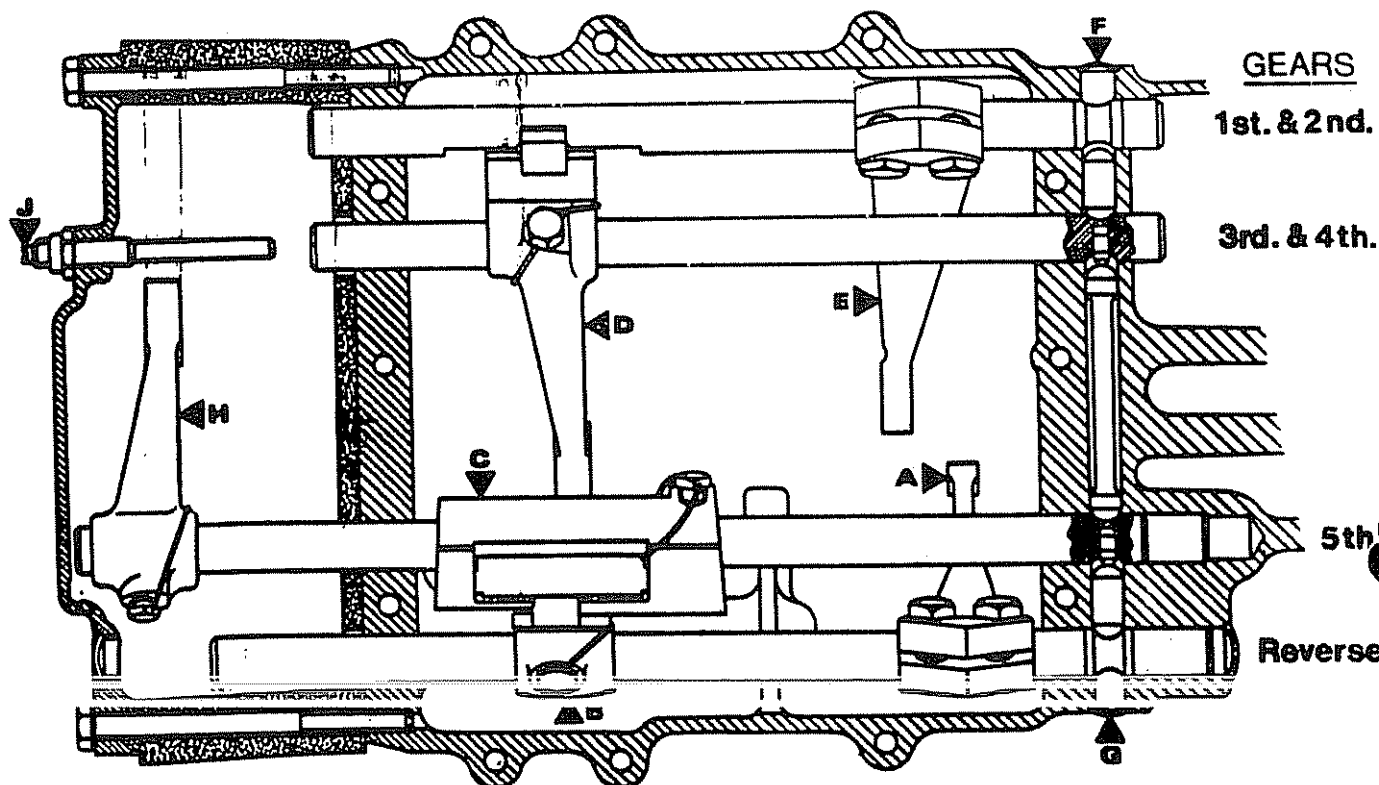

Fig.5 Gear selectors
GEAR SELECTORS REMOVAL (Figure 5)
1. Place the first interlock plunger in from the opening at (F) figure 5 and locate in the 1st and 2nd selector shaft notch.
1. Place the long interlock plunger in from the opening at (g) figure 5 and ensure that the fitted selector shafts are located in the 'neutral' position. This will allow the 5th gear selector shaft to be inserted into the differential **end of the gearbox**
1. Place the last interlock plunger in from the **opening** at (g) figure 5 and ensure that the fitted selector shafts are located in the 'neutral' position.
4. Place a shim of thickness **x +0.5 mm** between the pinion and **slider**. Tighten the screw of the stop (**J** in fig. 5) until it bears against the shaft of the 3rd and 4th gear fork.
8. Remove the **1st and 2nd gear** selector fork, (E) **figure 5**.